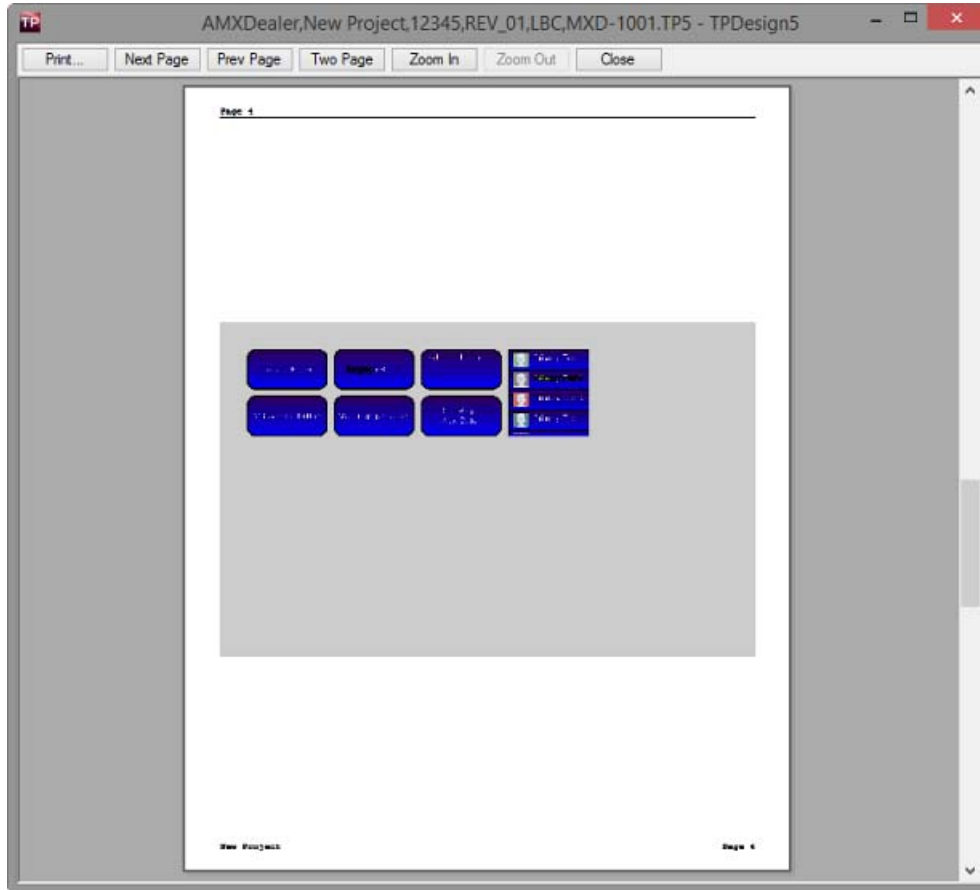

FIG. 55 Print Preview window
1. Select **File > Print Preview** to display a preview of the pages and popup pages in the active project, as they will appear when printed in the *Print Preview* window (FIG. 55):